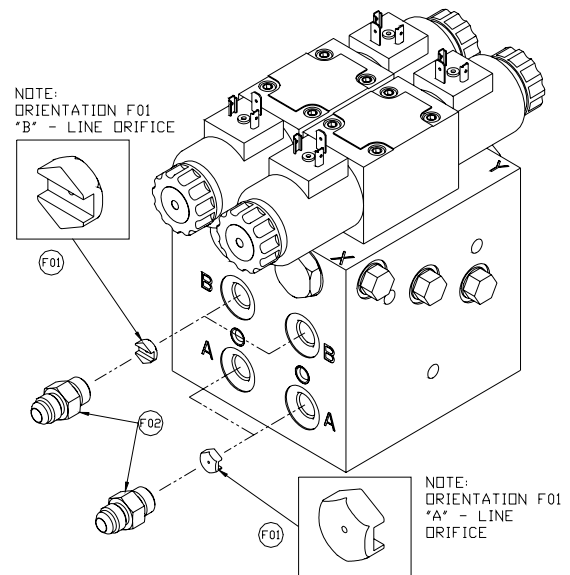

Figure 20 – Double Acting Valve Block Assembly
- 1) Install the orifices (F01) into the "B" ports with the notch facing outward as shown in Figure 20.
- 2) Install the orifices (F01) into the "A" ports with the notch facing inward as shown in Figure 20.